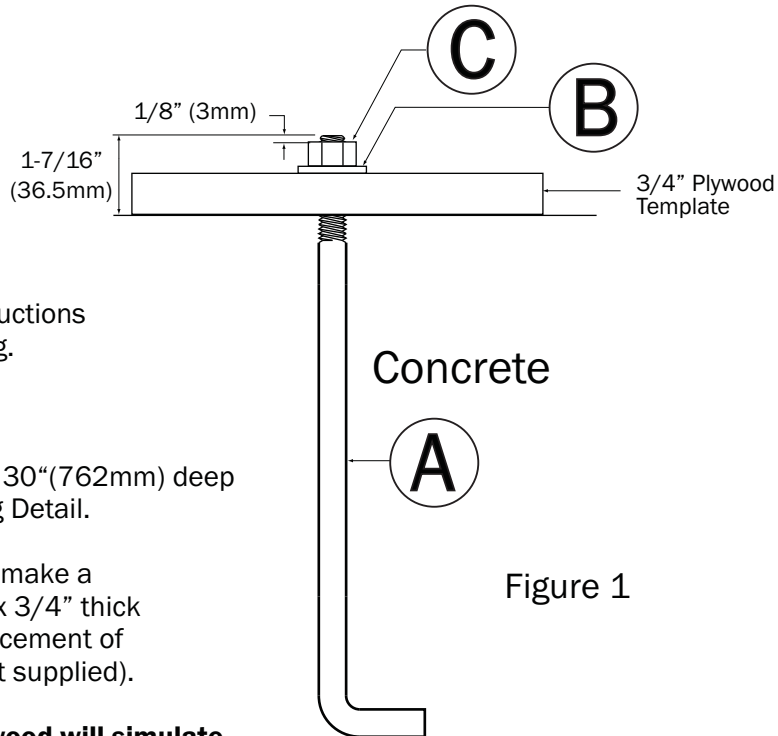

Figure 1
3. From center of plywood, mark (4) holes from Base Plate onto plywood and drill 1/2" thru holes.
4. Insert (4) 1/2" Anchor Bolts (A) into holes in plywood and secure with (4) Flat Washers (B) and (4) Hex Nuts (C).
**Tighten Hex Nuts (C) onto Anchor Bolts until thread extends 1/8" beyond nut . (See Figure 1).**
6. After concrete has cured, loosen and remove Hex Nuts (C) and Flat Washers (B). Remove Plywood Template.
7. Align holes in Base Plate of Spring Rider with Anchor Bolts (A) in concrete.
8. Secure Spring Rider to concrete footer with (4) Flat Washers and (4) Hex Nuts.